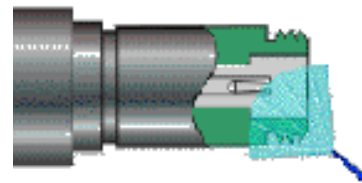

Figure 5. Correct direction of connector spraying [3]
1. blow out any loose debris using compressed air or nitrogen. Avoid blowing directly into the connector, as this could cause the debris to become more firmly lodged. Instead, blow across the connector's face as shown in Fig. 5.
Before each connection, it is important to ensure that the two connectors are compatible; although they may look similar, this does not necessarily mean they are compatible, as improper connection can lead to damage to the connectors as shown in figure 5 [1][2][3].